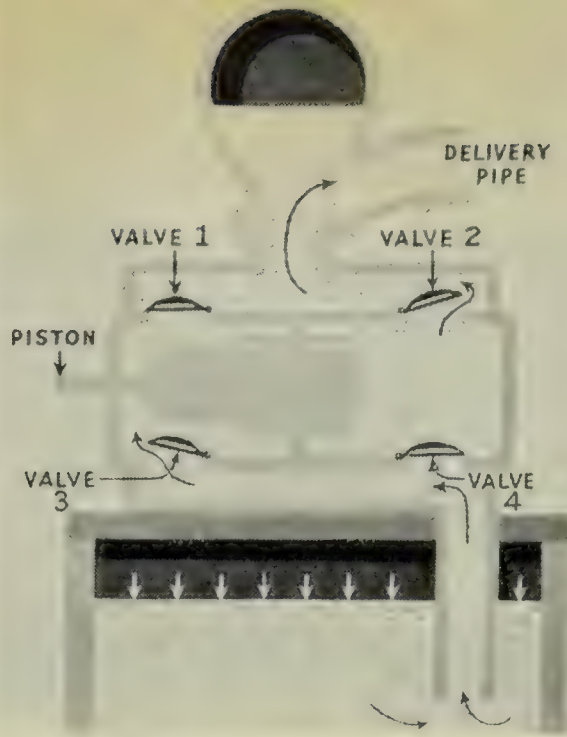

FIG. 242. A double-acting force pump
A *double-acting force pump* is sometimes used in city pumping stations and on fire-engines (Figure 242). It is really two air-dome force pumps fastened together so that water is being forced up into the pump and also out of the pump on both strokes of the piston; therefore a double-acting pump is able to pump water very rapidly and steadily. In Figure 242 the piston is moving to the right.
3. Draw Figure 242 and show the positions of the valves and the flow of the water when the piston moves to the left.